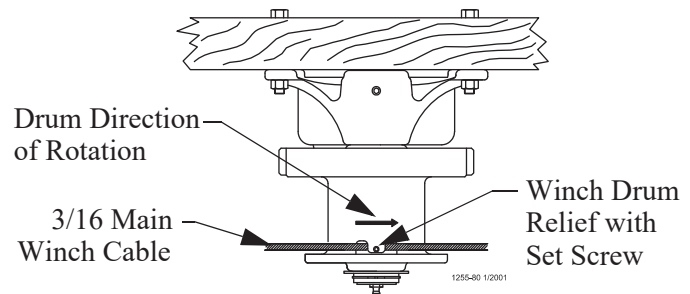

Figure 11. Attaching the Cable to the Power Winch
4. Route the cable through the Winch Drum Relief located near the bottom of the drum. Tighten the set screw to anchor the cable to the drum. (See **Figure 11.**)